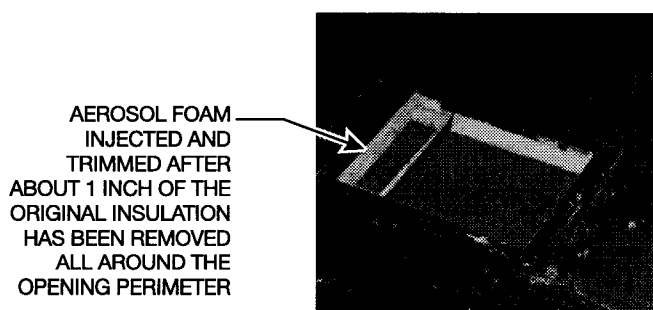

Figure 9
11. Prepare the bottom condenser air inlet opening by removing back about 1 inch of the polystyrene insulation. Place a paper drop cloth beneath the machine to catch excess foam. Fill the void around the perimeter of the opening with the aerosol foam. It will take about ½ hour before the foam can be trimmed with a hacksaw blade or a sharp knife. Allow 24 hours for a complete cure of the foam **See Figure 9.**